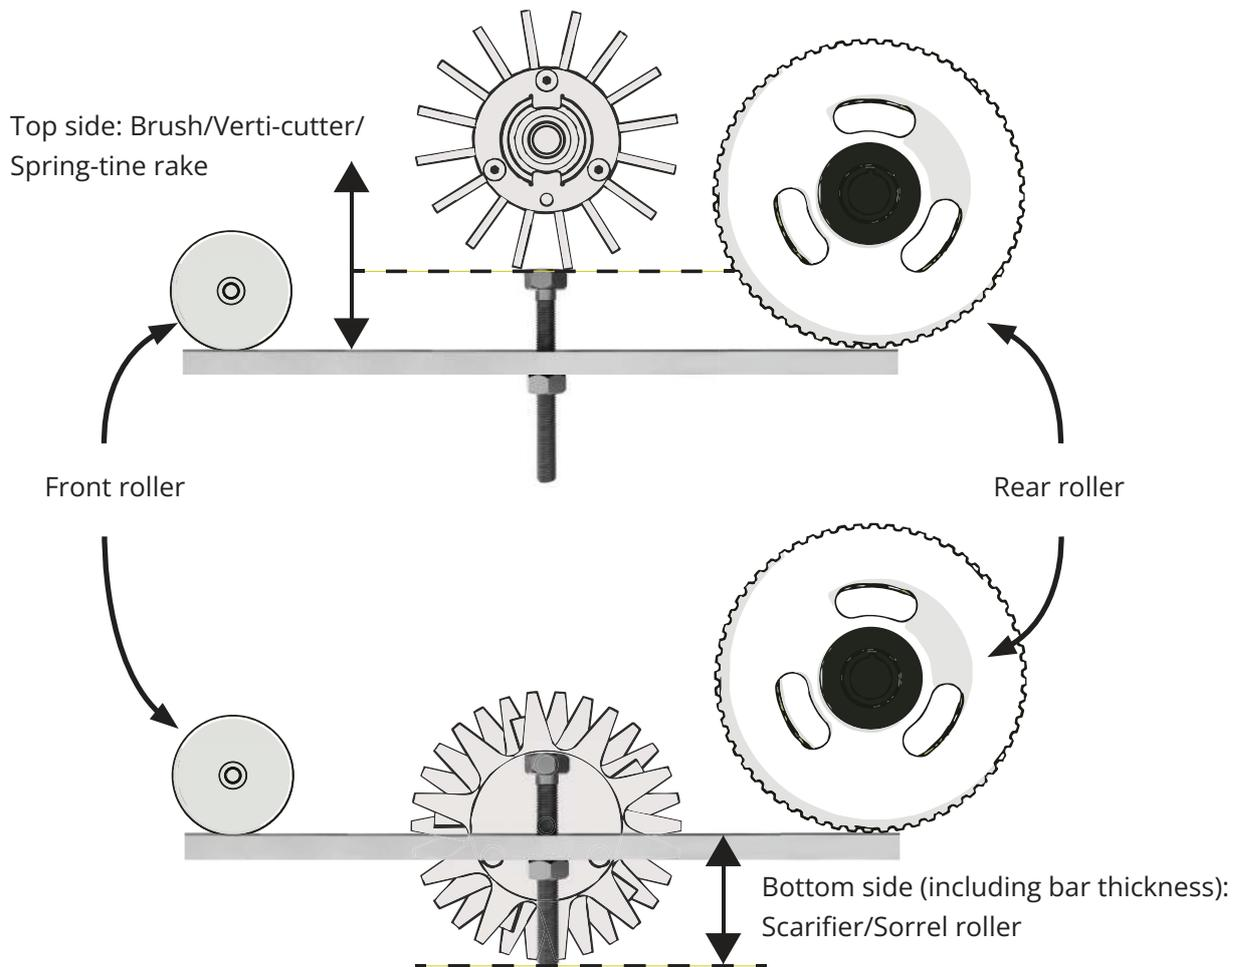

Fig.10 - Setting bar measurement for above/below ground cassettes.
3. On the setting bar, adjust the bolt against the rule until the distance above or below the setting bar (to the bolt head or bolt end, respectively) is to that desired (Fig.10). To note:
While adjusting the height, position up the setting bar again between the front and rear roller. Stop adjusting when either the tips of the brush hairs/verti-cutters are level with the bolt head, or the tips of the scarifier/sorrel roller are level with the bolt end. (Fig.10).